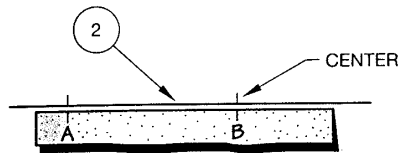

FIGURE 2.21 ■ Step 2, locate the center of the circle.
- Step 2. Sketch a straight line representing the circle radius at the place where the circle is to be located. On the sketched line, locate with a dot the center of the circle to be sketched. Use the marks on the trammel to mark the other end of the radius line as shown in Figure 2.21. With the trammel next to the sketched line, be sure point B on the trammel is aligned with the center of the circle you are about to sketch.